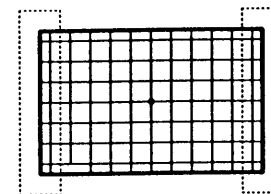

FIG. 12
22. RK64 (LIN) controls the blue line at both the right and left hand side. Adjust RK64 so that the blue is on the opposite sides and at the same distance away from the green. (So the blue can be on either the inside or outside of the blue on both sides but the distance must be the same to both sides from the green.) See Fig. 12.